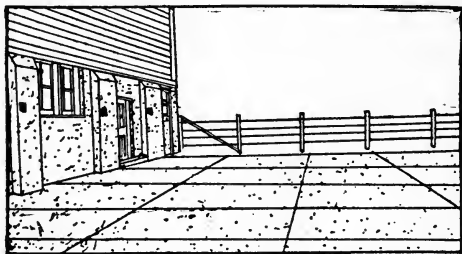

Figure 96.—Concrete Barnyard, Laid in Blocks Like a Sidewalk
*Paved Barnyard.*—Figure 96 shows a paved barnyard. The blocks are about five by seven feet with